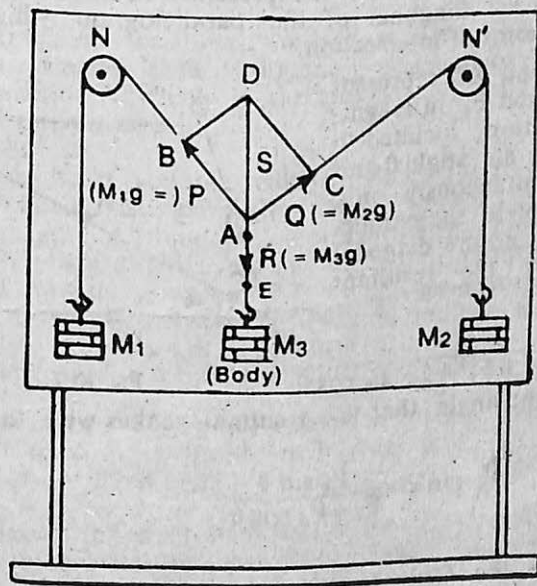

Fig. 10.1
3. Pass a thread over the two pulleys with hangers at its ends and then knot another thread in its middle and attach the given wooden block (unknown weight) to its lower end. Add slotted weights to the hangers till the knot A (Fig. 10.1) lies approximately at the centre of the sheet and none of the hangers and the given body touches the vertical board. When the weights are steady it would mean that the point A is in equilibrium under the action of three forces represented by the weights. In the case of perfect equilibrium, a slight disturbance of the point A should bring it back to the original position but generally the position of A may vary over a small area on account of friction at the pulleys, etc.
7. Choose a suitable scale to indicate the forces so that you may get a fairly large parallelogram. From the common point A mark off lengths AB and AC representing the respective forces P and Q. On adjacent sides AB and AC complete the parallelogram ABCD and draw the diagonal AD which represents the resultant S of P and Q and mark arrow heads to indicate the direction of forces. Also produce EA (Fig. 10.1) and if the experiment is correctly performed, EA produced should pass through D.
8. Measure AD and calculate the force which it represents. It should be equal to its equilibrant in magnitude, i.e., the unknown weight (R) of the given body.